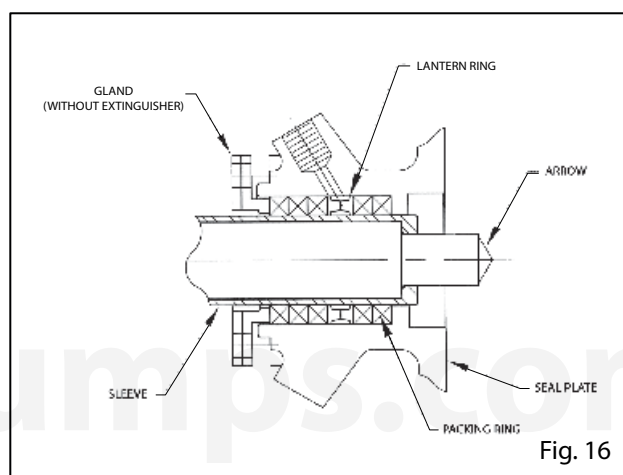

Fig. 16
- 4.- The arrangement of the packaging should be packing rings at the bottom of the chamber, a lantern ring intermediate and three packing rings at the end, then install the gland (see Figure 16, for example).